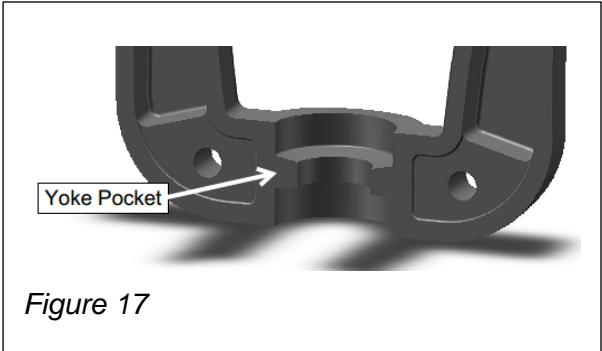
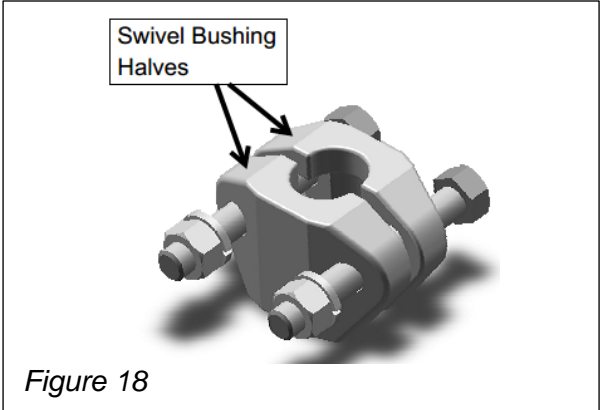

Figure 17
Figure 18
- For 2T-2000-2 or 2T-2000-2SR (plus 4-wheel or 8-wheel assemblies using these trolleys), verify that the “pocket” of the yoke (see Figure 17, Page 10) is clean and smooth, and that the head of the fittings and those on the machined load bar (see Figure 14A, Page 9) are free to pivot within the yoke. The pocket of these trolleys does not require lubrication, but a coating of good quality EP grease may be applied if desired.
Swivel Heads on the loadbar (see Fig. 14A) are securely held in pockets of the two-wheel trolleys (see Fig. 17, Page 9).
A 2T-3100-4CC trolley (see Figure 15, trolley shown with SB-213 Swivel Bushing) consists of two 2T-2000-2 trolleys coupled by a short wheelbase loadbar (6" long). This trolley is only available with the SB-123 Swivel Bushing (see Fig. 18) in the loadbar.
Fittings are mounted by containing a swivel head or a round nut on the fitting inside the machined pocket of a 2-wheel trolley yoke (see Fig. 17, yoke half), or within a similar pocket in a Swivel Bushing (see Fig. 18 and 18A, Swivel Bushing half) installed in the load bar of a 4-wheel trolley (see Fig. 19).